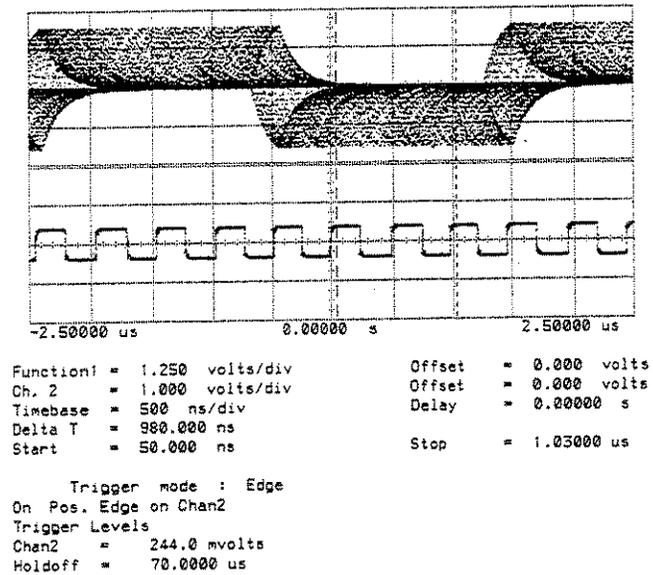

Figure 8-24 4UI p-p Jitter
29. Continue increasing the Signal Source frequency until the observed jitter falls to 4 UI p-p as in Figure 8-24. Check that the frequency is >6 kHz, typically > 25 kHz.